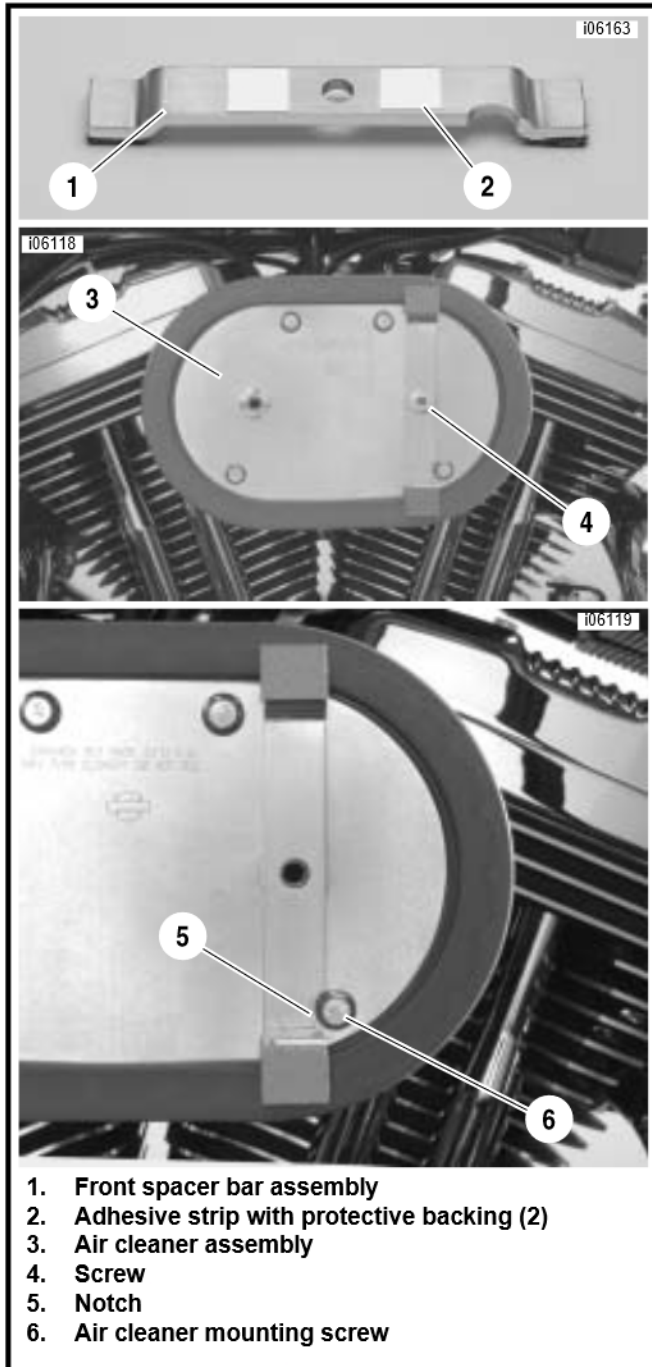
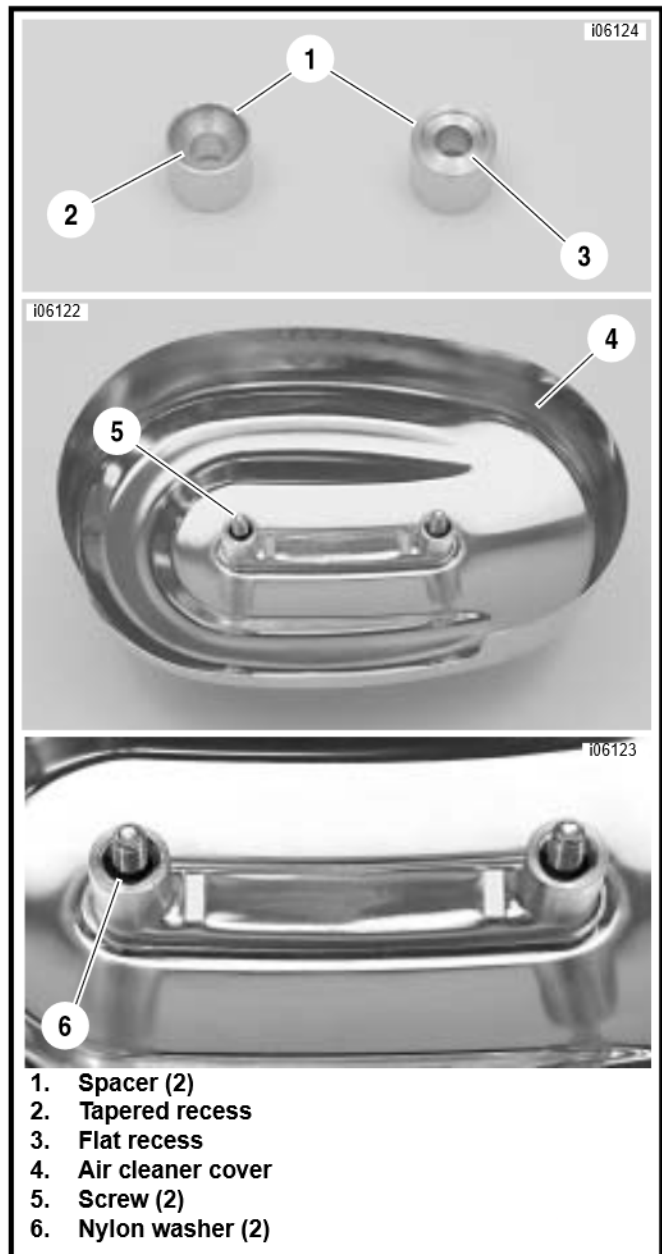

Figure 1. Attaching Front Spacer Bar Assembly to Air Cleaner
Figure 2. Attaching Mounting Hardware to Air Cleaner Cover
1. See Figure 1. Remove protective backing from two adhesive strips (2) on back side of front spacer bar assembly (1).
2. Mount spacer bar assembly vertically with notch (5) facing lower front air cleaner mounting screw (6). Install screw (4) through hole in spacer bar and thread into air cleaner face plate a few turns to line up spacer bar properly with air cleaner (3). Press firmly against spacer bar assembly to affix it to air cleaner. Remove screw.
See Figure 2. Note that spacers (1) have a tapered recess (2) on one end and a flat recess (3) on the other end. When assembled, the nylon washer (6) fits into the flat recess.
3. See Figure 2. Insert screws (5) into air cleaner cover (4). Slide spacers (1) onto screws with tapered recess (2) facing cover. Thread nylon washers (6) onto screws.